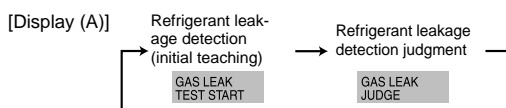

Fig. 8-2
- (2) Press [CLOCK] button and select the [GAS LEAK TEST START] (Fig. 8-2)